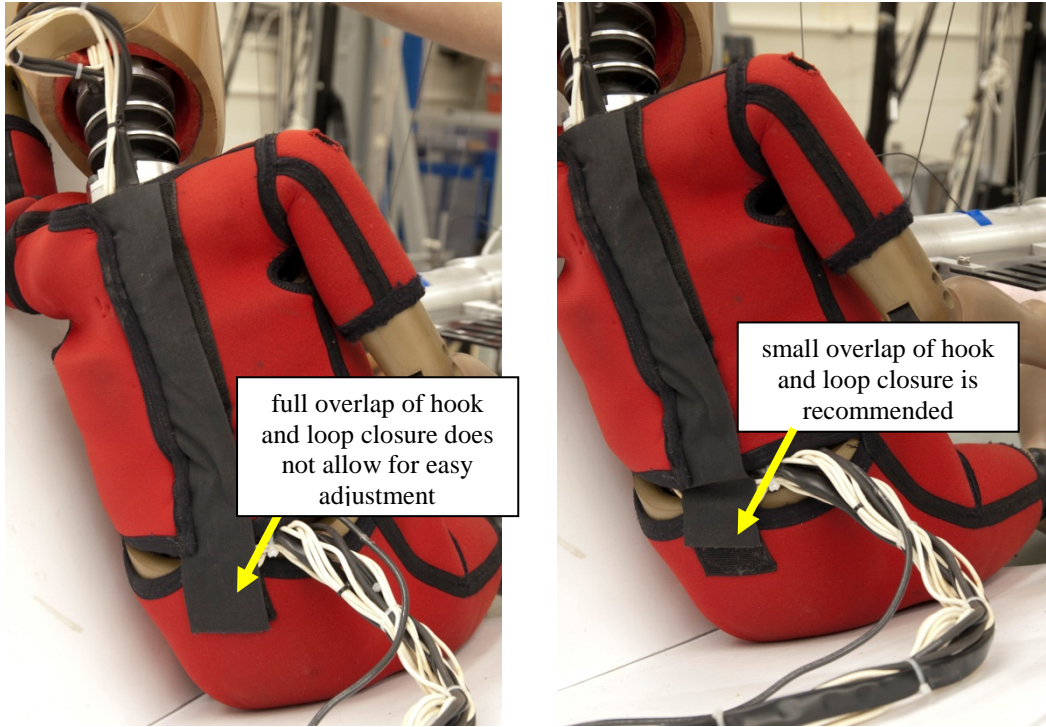

Figure 106. Proper umbilical placement and jacket closure (shown prior to arm removal)
- For this procedure, the pins on either side of Q3s positioning device should both be installed (Figure 106).